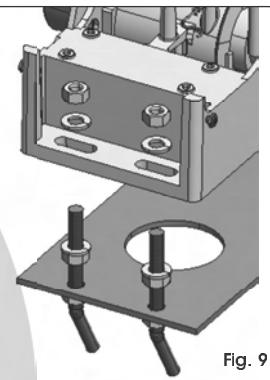

Fig. 9
- Fit the operator on the plate, using the supplied washers and nuts as shown in Fig. 9.